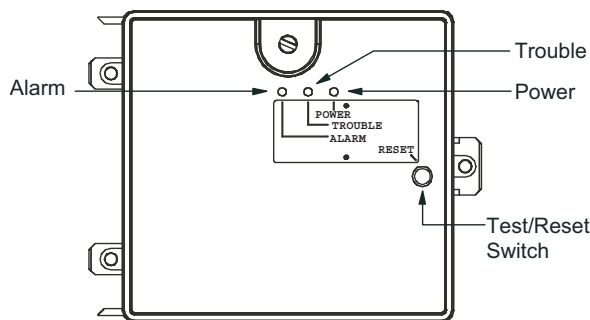

Fig. 63 — Controller Assembly
- The contacts on the controller's supervisory relay switch positions. (See Fig. 63.)